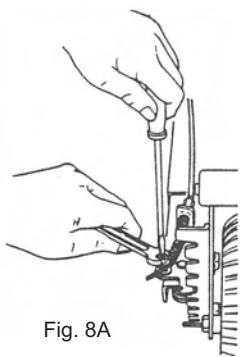

Fig. 8A
- e. After installation of adjust wire, loosen fixing nut of lock plate and pull the inner wire lightly with pliers. (Fig. 8) Then fix it by tightening the fixing nut as locking the lock plate with a minus screw driver. (Fig. 8A)